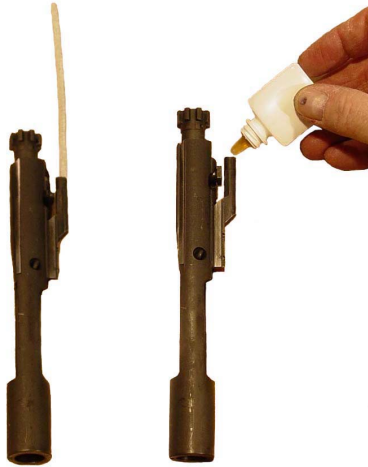

Figure 3-62. Lubricate Carrier Key
- d. Carrier Key. Clean well with pipe cleaner and CLP. Refer to Figure 3-62.